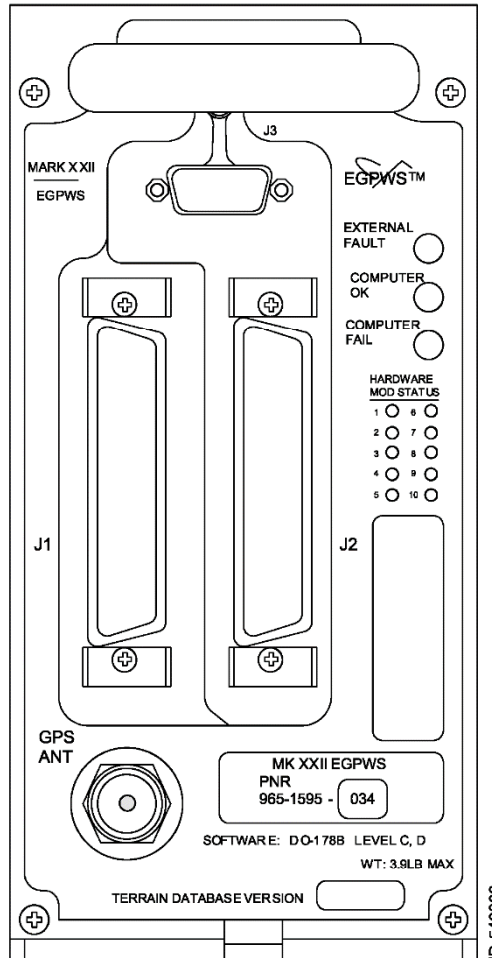

Figure 3. (Sheet 1 of 1) New Style EGPWS Front Panel Label, Part Number/Software version Label
NOTE: To determine whether the EGPWS has the old style or new style ID labels and to complete the procedures below, refer to Figure 2 and Figure 3.
- (2) For an EGPWS with the new style front panel ID label:
- (a) Refer to Figure 3 and remove the old part number/software version label.
- (b) Install a new combined part number/software version label, PN 620-2035-134 from Table 2, in the approximate location shown in Figure 3.